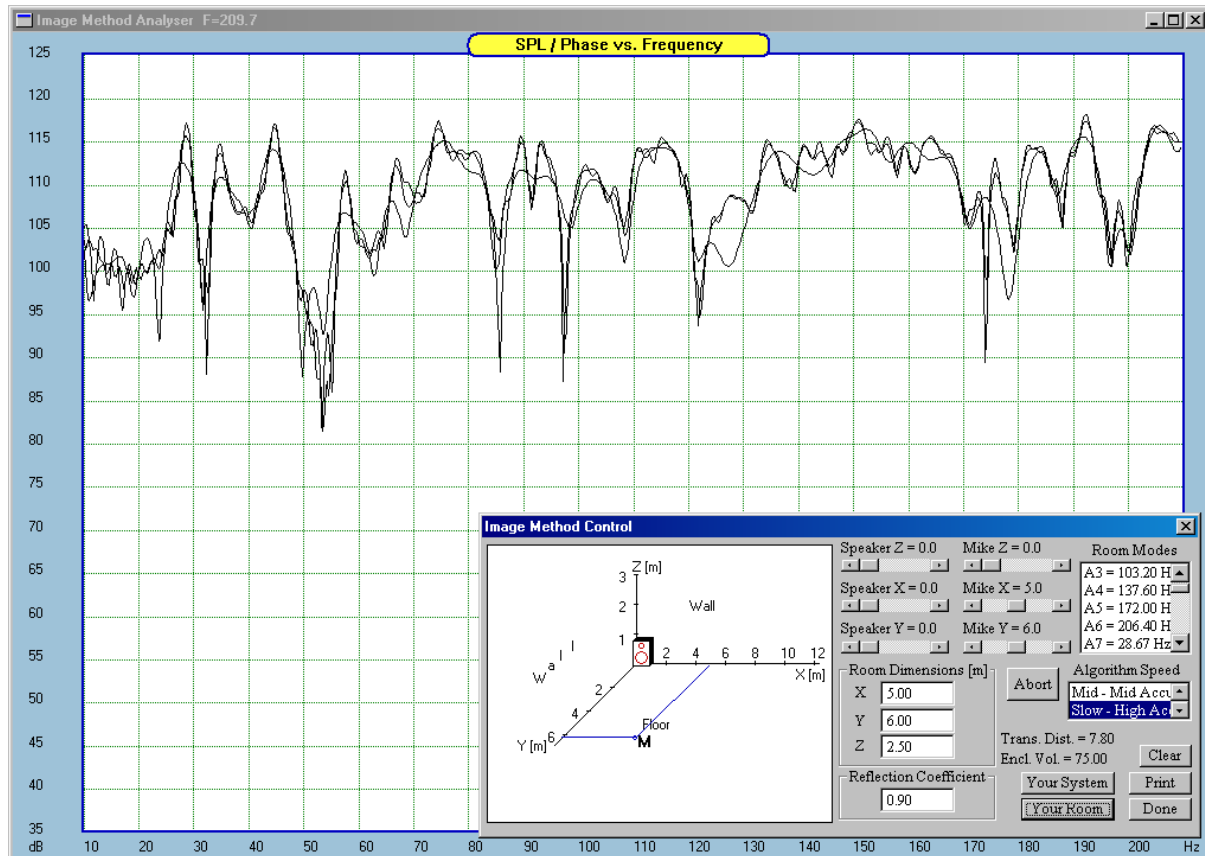
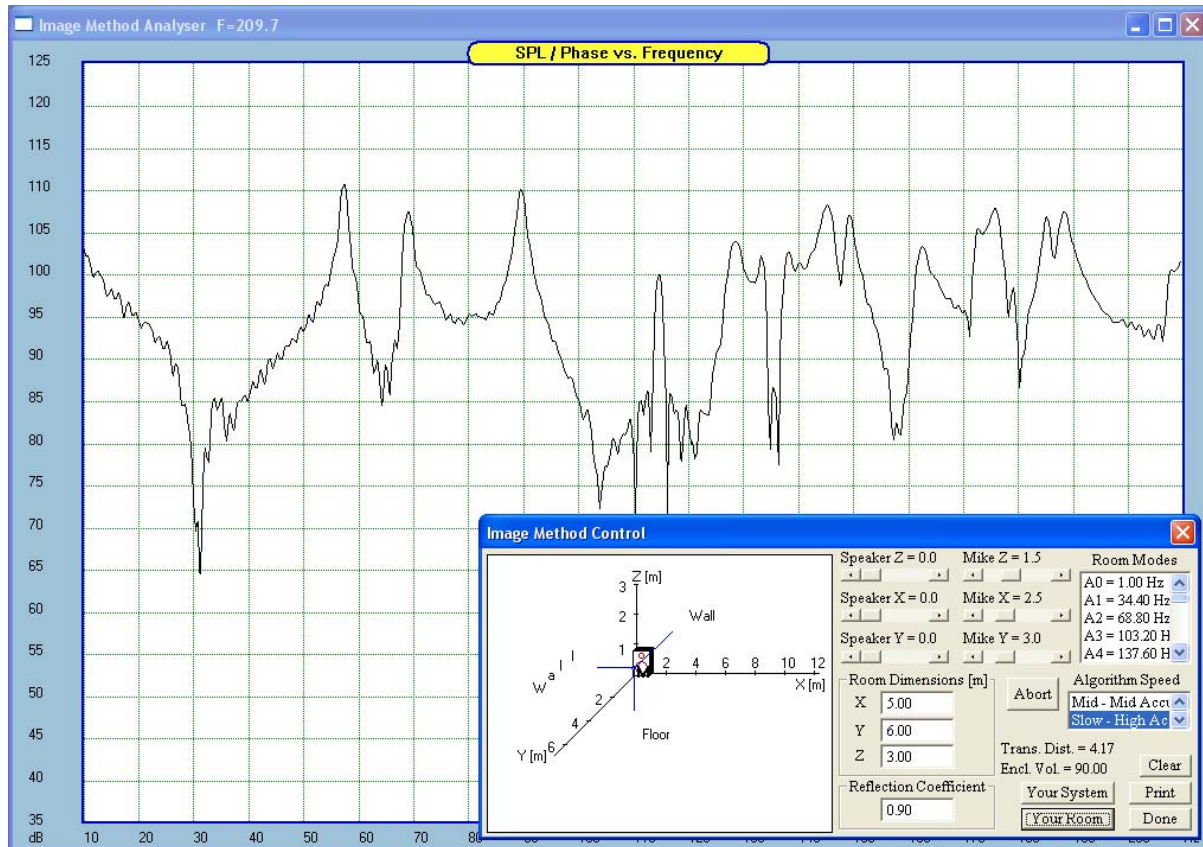

Fig 14.1 Image Method Screen
Fig 14.6 Central location of the microphone
The **"Room Image Method"** - enclosure positioning, function is incorporated under the **"Room/Car Acoustics"** menu and invoked from the main menu of this module (see Fig 14.1).
The first button - "Clear" is used to clear the plotting area. The next seven buttons provide plots for the indicated enclosure type. "Your Woofer" button recalls/generates plot for the woofer which has been created as the amplitude response (Transfer Function) with the "Editor" tool and "Your System" curve must have been created by the user as a summed response of the configured system. Box distance from the three boundaries (corner of the room) is selected using three scroll bars, one for each direction: X, Y and Z. Every time one of these bars is activated, the corresponding position of the enclosure is changed by a small increment. The minimum distance allowed is 5 cm, and the maximum distance allowed is displayed on the graph at the end of each X,Y,Z coordinate. The graphs are labeled automatically. You can display the woofer frequency response in various modes (enclosures) or your system frequency response. Figure 14.1 shows an example of enclosure placement and the resulting responses. If a loudspeaker measured in a true free field, with no reflecting surfaces, such as a very good anechoic chamber, or outdoors far away from any large object, including the ground, the sound radiates into a full sphere solid angle, identified as 4π steradians. Placing the loudspeaker on a floor reduces the solid angle by half, and the sound pressure at low frequencies will be increased by approximately 6 dB because sound that would have propagated away will be reflected back. Leaving it on the floor and backing it up against a wall reduces the solid angle by two factors of two, to π steradians and the sound pressure is elevated by about 12 dB. Sliding the loudspeaker into a corner reduces the solid angle into which the sound radiates by a further factor of two, to $\pi/2$ steradians, and the pressure goes up by another 6 dB for a total low-frequency gain of about 18 dB! With respect to amplifier power and stress and strain on the loudspeaker, these acoustic gains are absolutely free, so wise people take advantage of them. An unfortunate side effect is that some irregularity is introduced at upper bass and lower mid frequencies.
Please upload project file "test301.hif" into the program and select **"Room Image Method"** screen from the main menu - see Fig 14.1. The control dialogue box contains 3 scroll bars to position the speaker up to several meters from the corner and correspondingly, 3 scroll bars to move the "microphone" around.
The loudspeaker can be position within $X = 5\text{m}$, $Y = 4\text{m}$ and $Z = 3\text{m}$ distances from the room corner. The microphone can be located within $X = 10\text{m}$, $Y = 12\text{m}$ and $Z = 4\text{m}$ from the room corner. The horizontal frequency response is of 10-200Hz linear resolution. Room dimensions are editable from the three fields shown on the right-hand side. There is no built-in limit on the room size, but the screen is intended analyze small rooms. The room dimensions can be greater than graphical representation of the set-up shown on the bottom-left hand of the screen, however, the smallest room size is 1m x 1m x 1m. Pressing the "Plots" button invokes a floating menu, from which you can select various enclosures to be examined and also imported woofer and system frequency responses. The "Clear" button clears the plotting area. It is clearly observable, that the SPL frequency response of a loudspeaker placed in a confined space is far from being flat. The fluctuations in level are most pronounced at low end of the audio spectrum, where the modes are few and separate. The frequency response of loudspeaker will be further influenced by the actual location of the loudspeaker and the listener. The so called "corner location" allows the loudspeaker to excite all room modes - see Fig 14.1. On the other hand, locating the listener in the exact center of the room, further distorts the frequency response - see Fig 14.6.
Frequency independent, average room Reflection Coefficient (RC) can be entered in the corresponding data field on the bottom-right hand section of the screen. Please note, that entering the $RC=0.01$ (negligible reflection) corresponds to testing your design in the anechoic chamber. Indeed, when you use this low RC, the corresponding frequency response plot should look exactly as the one representing anechoic chamber. The $RC=0.90$ will produce highly distorted frequency response by contribution of the undamped room modes - see Fig 14.1.